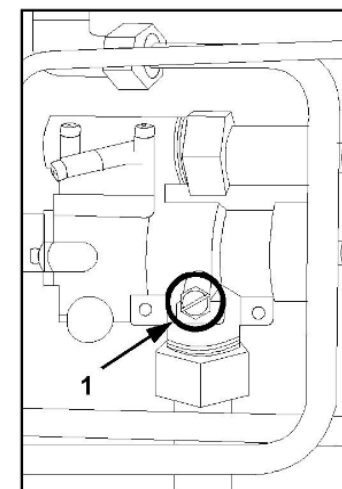

FIG.7 (Gas feeding pressure control)
- 2) Loose the gas-tight screw of the safety valve (general tap) (**FIG.7-Ref.1**);
- 7) Fasten again the gas-tight screw of the safety valve (**FIG.7-Ref.1**);
- 8) Replace and screw back the right (DX) side panel of the oven